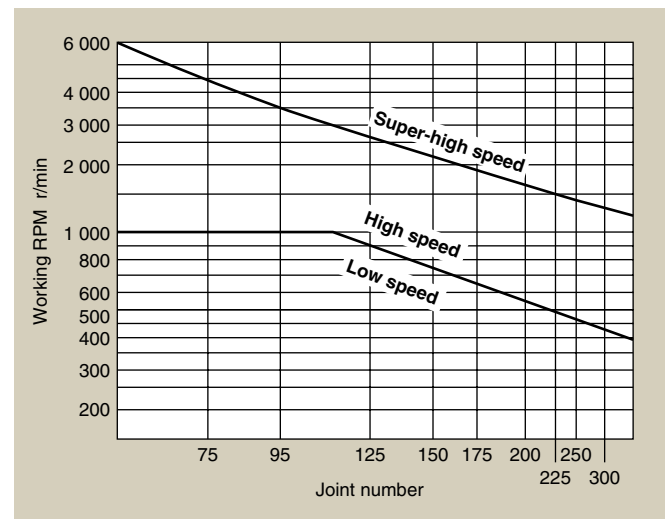

Fig. 11 Joint number versus RPM
3. For the allowable RPM of the intended shaft in low speed and high speed applications, refer to Fig. 11.